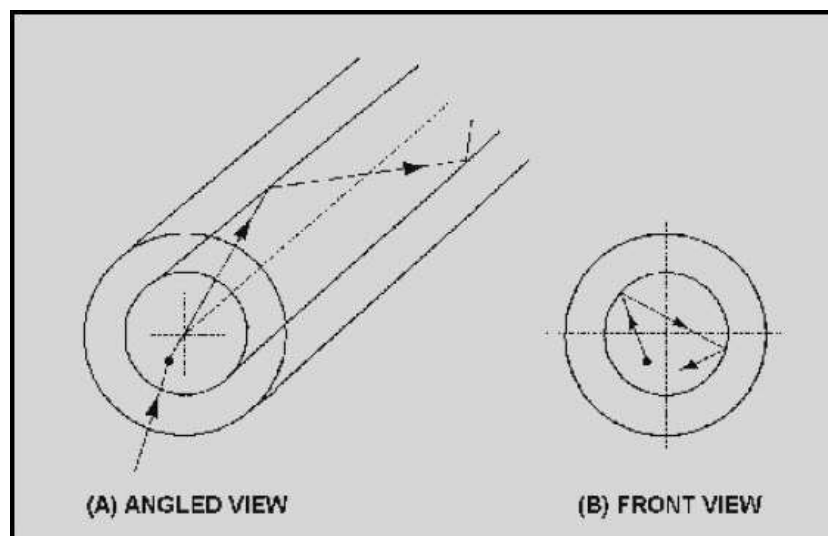

Figure 2-14. - Skew ray propagation: A. Angled view; B. Front view
**SKEW RAYS.**—A possible path of propagation of skew rays is shown in figure 2-14. Figure 2-14, view A, provides an angled view and view B provides a front view. Skew rays propagate without passing through the center axis of the fiber. The acceptance angle for skew rays is larger than the acceptance angle of meridional rays. This condition explains why skew rays outnumber meridional rays. Skew rays are often used in the calculation of light acceptance in an optical fiber. The addition of skew rays increases the amount of light capacity of a fiber. In large NA fibers, the increase may be significant.